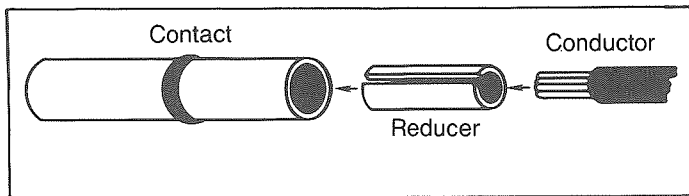

**Figure 9. Contact Removal**
- Remove all contacts (except the grounding contact) from the motor plug housing that require crimp or solder contact terminations. To remove the contacts, insert a flat blade screwdriver into the contact recess, depressing the contact retaining clip. While depressing the retaining clip, push on the contact from the opposite end removing the contact. See Figure 9. Remove retaining clips from contacts and retain for reassembly.